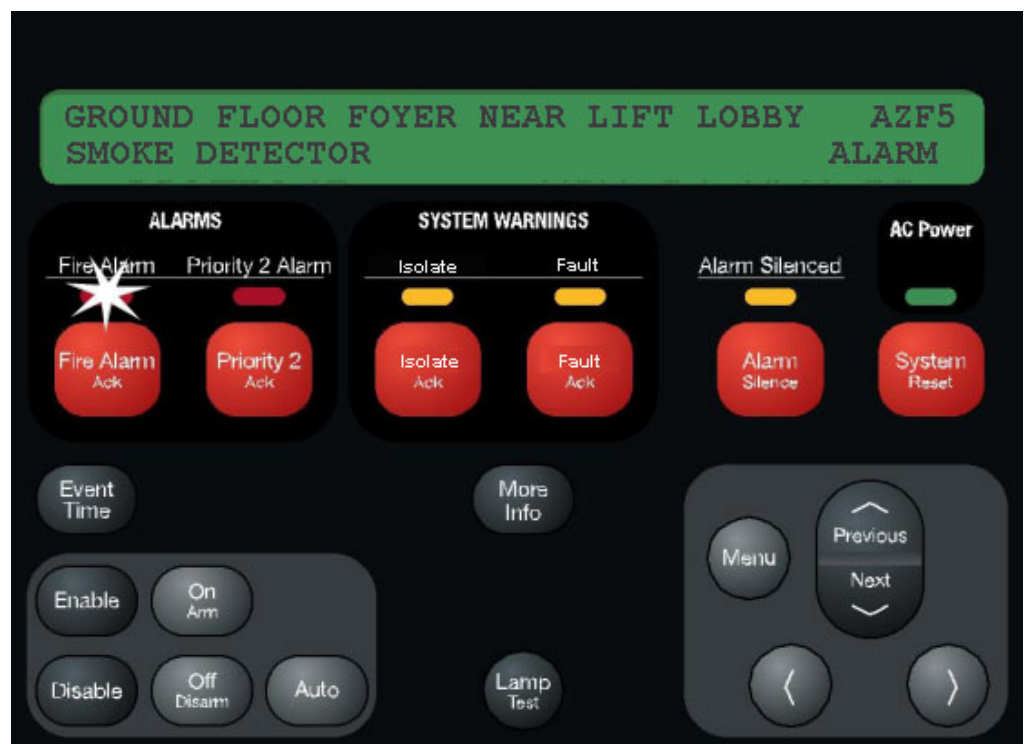

Figure 2-1. Alphanumeric Display Showing Typical Alarm
- Alphanumeric display on the operator interface shows the location and type (smoke, call point, etc.) of the point in the alarm condition. An example is shown in Figure 2-1.
1. Unlock and open the enclosure door. **Read** the alphanumeric display . It alternates between the display shown in fig 2.1 & the summary shown below.